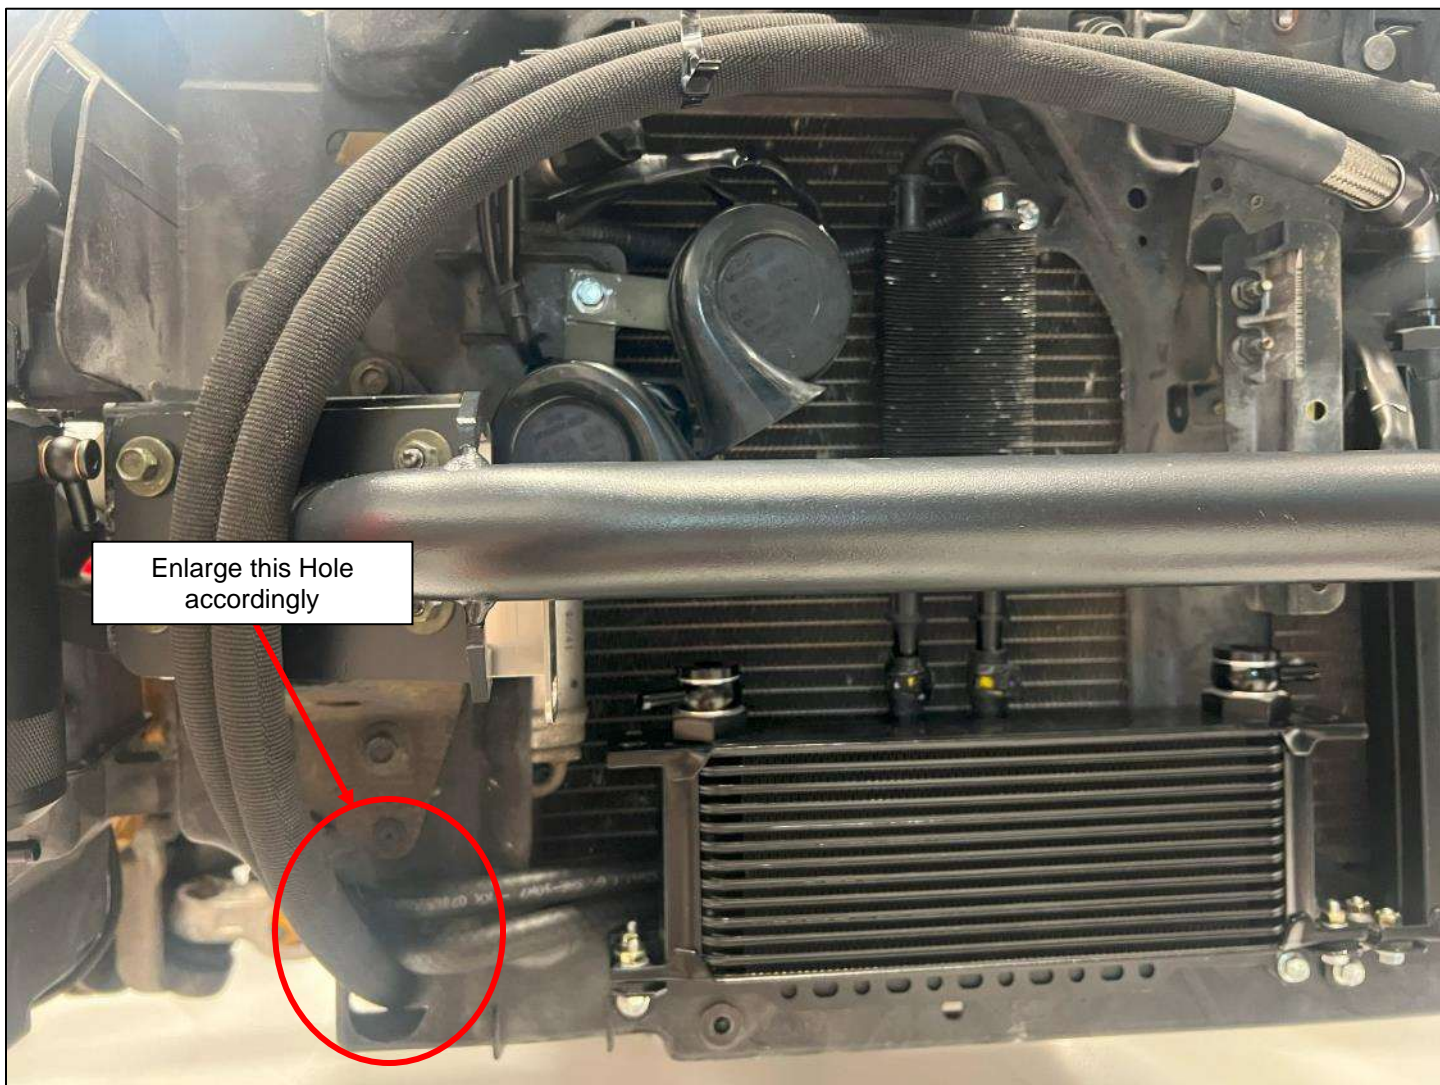

Figure 17
7. The hole in the bottom left of the Core Support will need to be enlarged to allow the Power Steering Lines to pass through. If you are using an Oil Cooler, the lines can be run through this hole as well. Enlarge the hole accordingly. *Figure 17.*